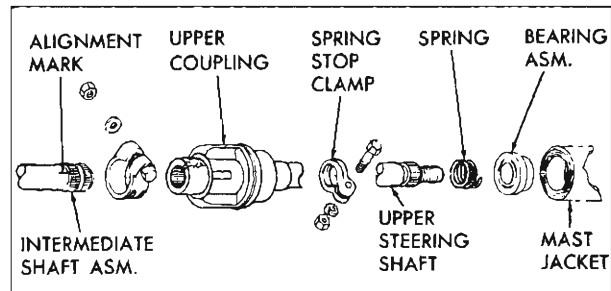

Fig. 4—Installation of Upper Steering Coupling
Installation (Fig. 4)
5. Attach intermediate shaft, if removed, to upper coupling, aligning the marks as shown in Figure 4.
1. With the front wheels straight ahead, remove the upper coupling clamp bolt (fig. 4), then push the upper coupling toward the dash as required to free the upper end of the intermediate shaft.
Further upward movement may be obtained if necessary by loosening steering shaft spring stop clamp (fig. 4).